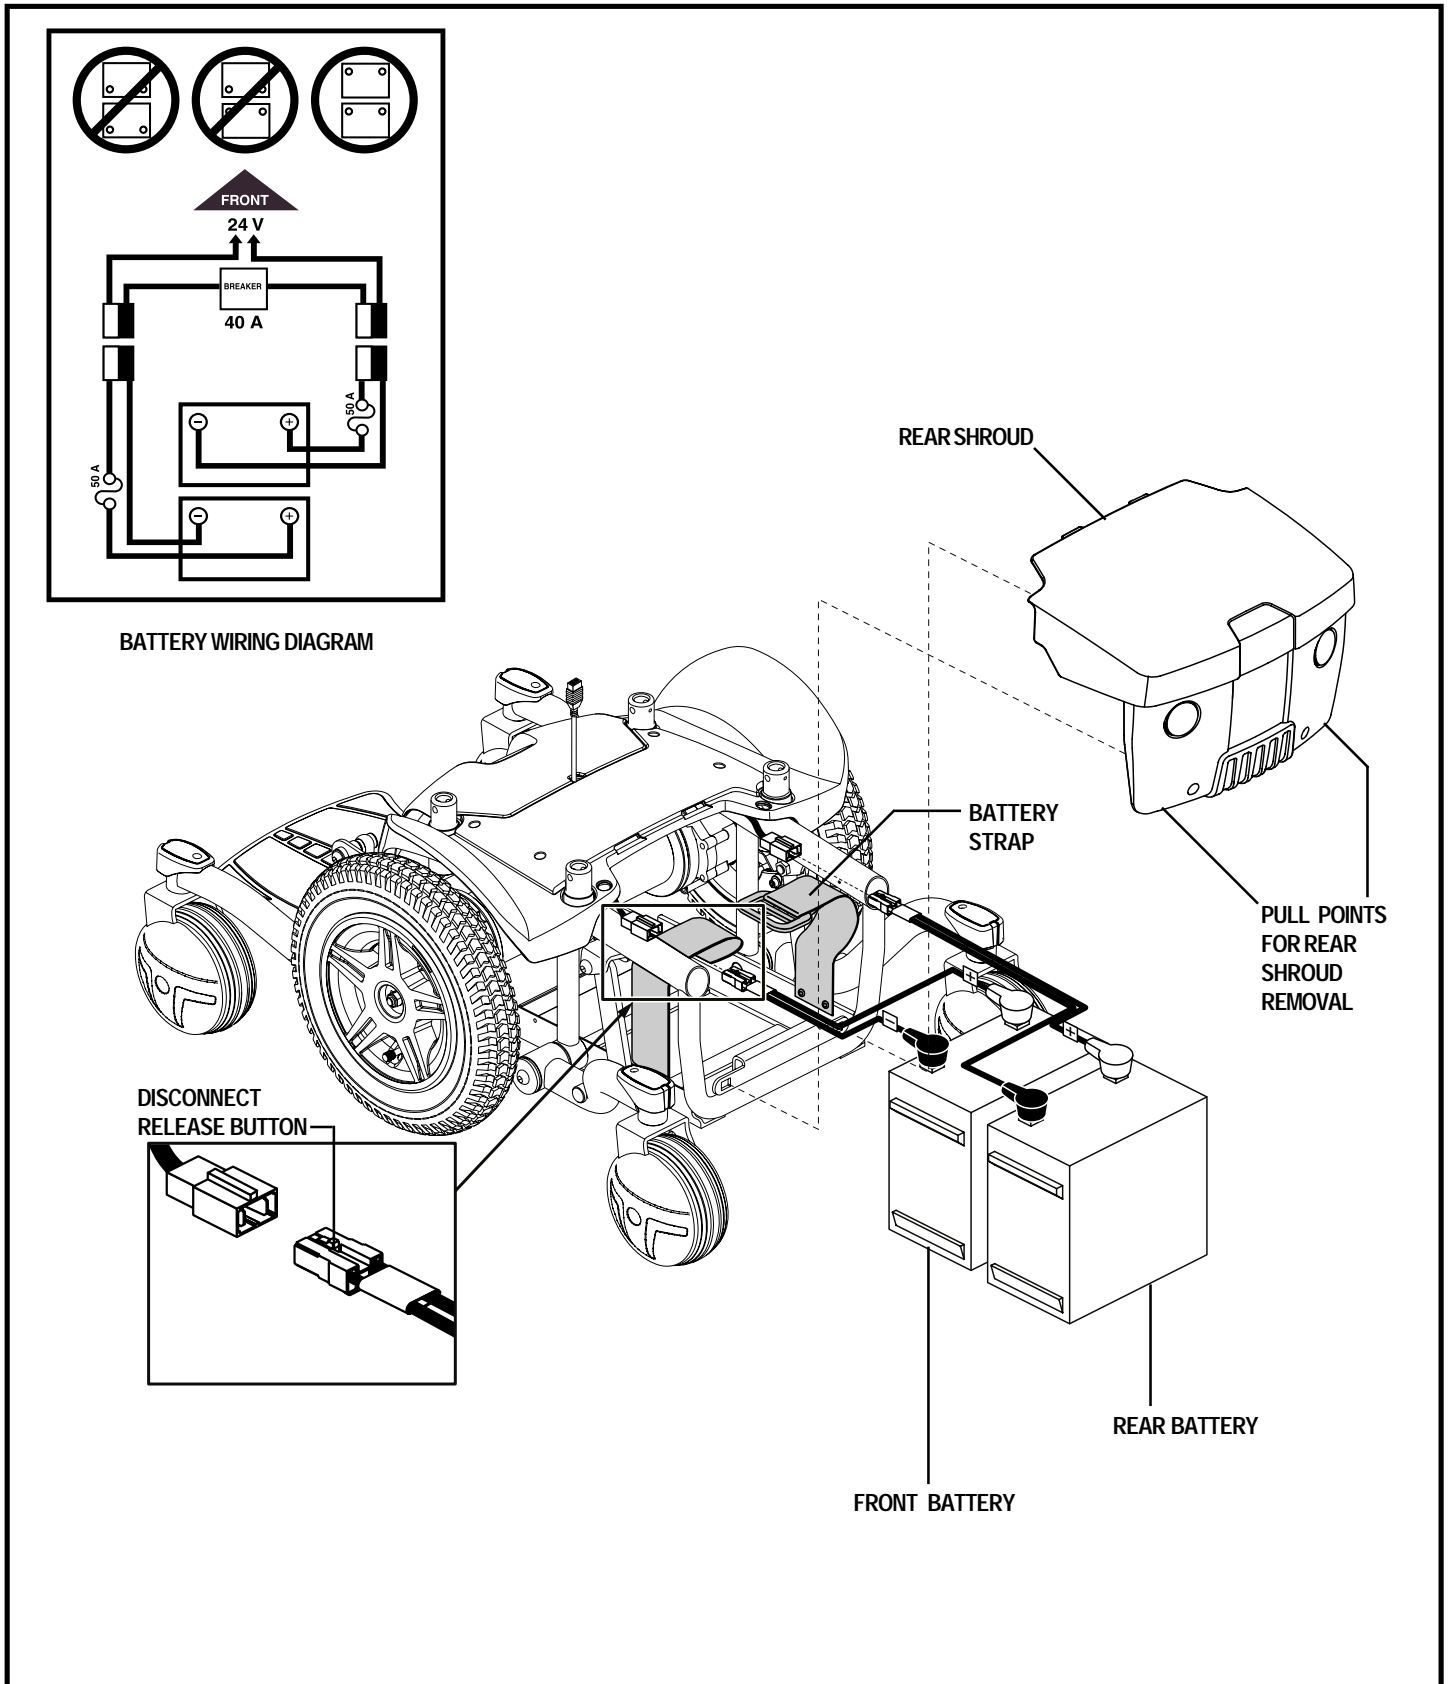

Figure 22. Battery Removal/Installation
A battery wiring diagram is printed on a decal located on the front battery tray. See figure 22. See VI. "Batteries and Charging" for correct battery specifications.
3. Pull to remove the rear shroud. See figure 22.
4. Push down on the disconnect release button and disconnect the rear battery harness from the power base. See figure 22.
7. Push down on the disconnect release button and disconnect the front battery harness from the power base. See figure 22.
10. Install a battery harness onto each new battery according to the battery wiring diagram. See figure 22. Make sure that you connect the red wire to the positive (+) battery terminal and the black wire to the negative (-) battery terminal for each battery.